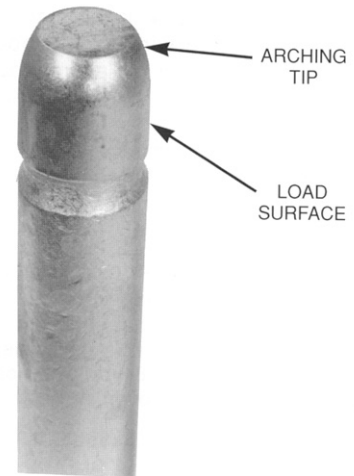

Figure 17.
4. Remove contact yoke assembly and inspect (Figure 17).